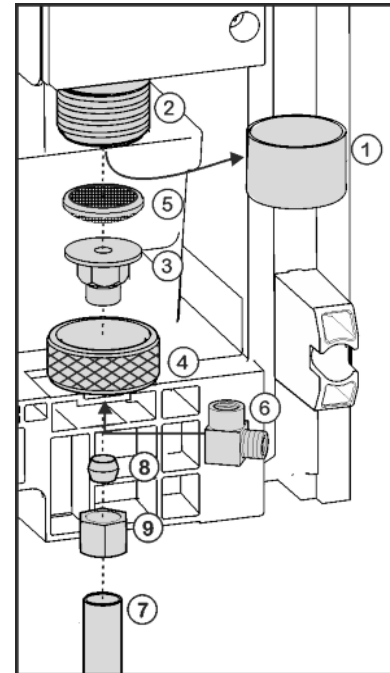

Fig. 18
- ▶ Remove the cap Fig. 18 (1) from the solenoid valve Fig. 18 (2).
- ▶ Insert the coupler Fig. 18 (3) in the union nut Fig. 18 (4).
- ▶ Insert the water filter Fig. 18 (5) with the recess pointing down towards the coupler Fig. 18 (3).
- ▶ Lock the union nut Fig. 18 (4) onto the solenoid valve Fig. 18 (2) and tighten.
- ▶ To turn the water connection 90°, tighten the elbow connector Fig. 18 (6) if necessary.
- ▶ Connect the water supply Fig. 18 (7) (e.g. copper) with the aid of the clamp ring Fig. 18 (8) and nut Fig. 18 (9) to the coupler Fig. 18 (3) or elbow connector Fig. 18 (6).